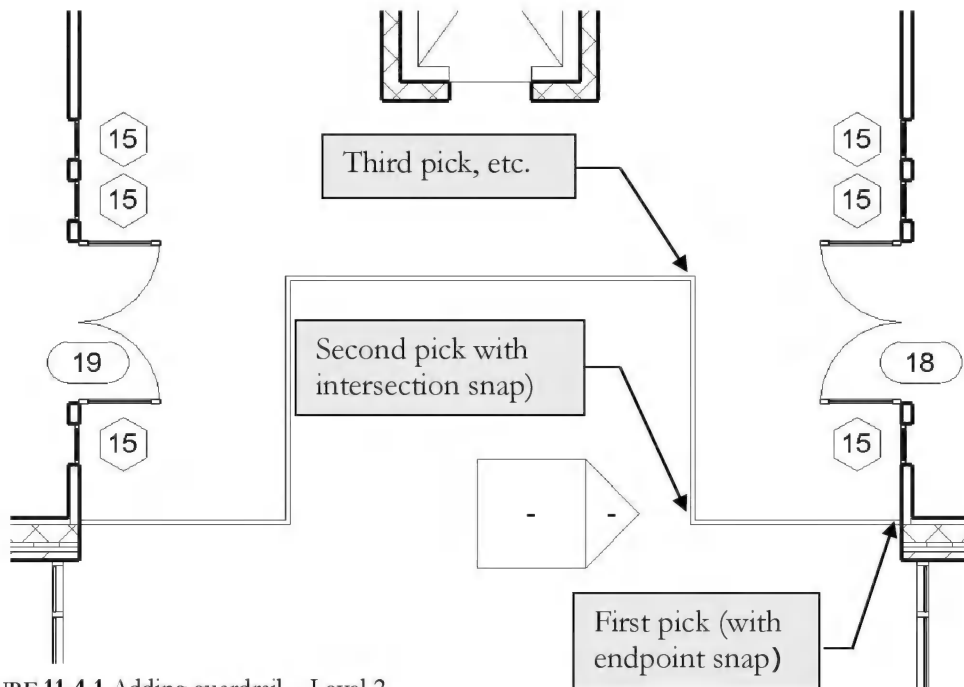

FIGURE 11-4.1 Adding guardrail – Level 2
5. Draw a line along the edge of the floor as shown in **Figure 11-4.1**.